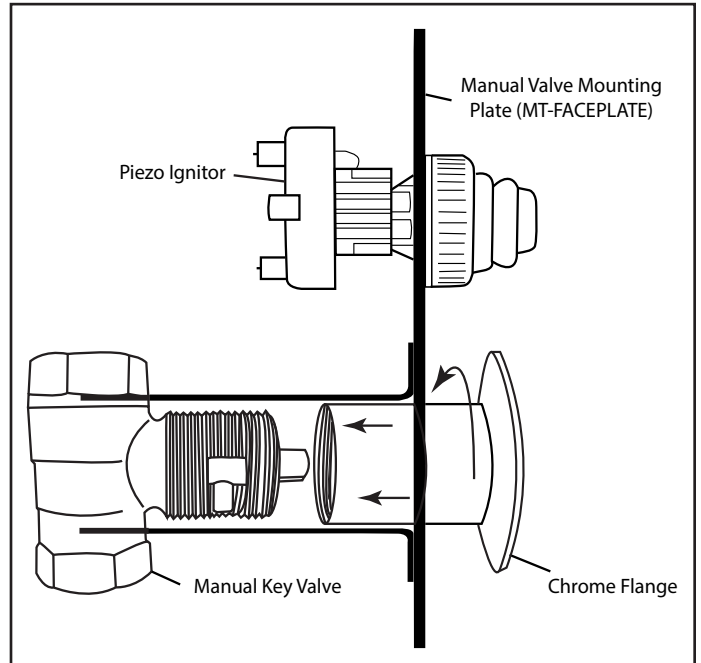

Fig. 6 Installing the key valve into the mounting plate.
Step 7: Install the manual key valve into the mounting plate as shown in Fig. 6. Mount the valve from the back side of the mounting plate and thread the chrome flange through the front to secure the key valve into place.